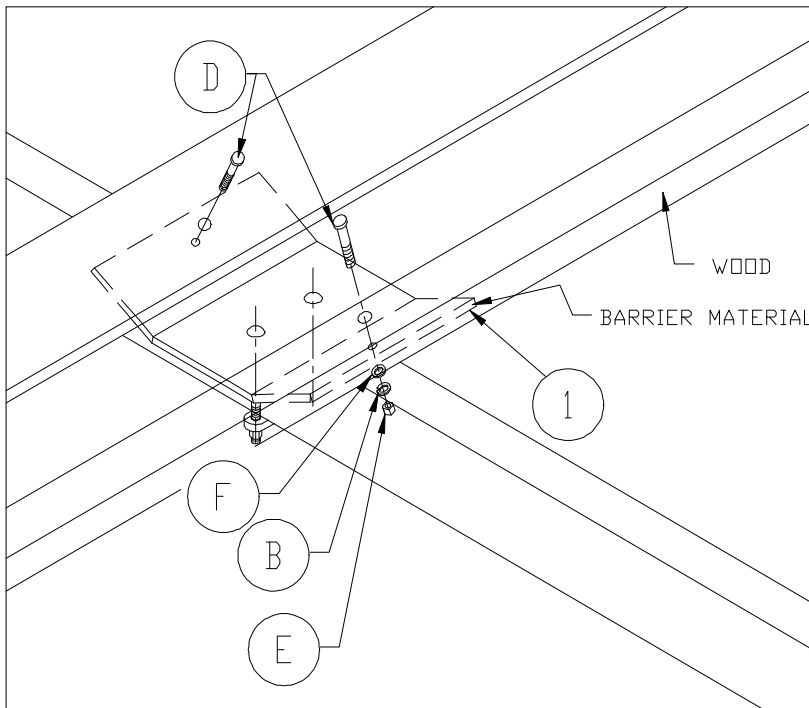

Figure 2-3.
1. **Refer to Figure 2-3.** Place two of the 2" x 6" x 12' pressure treated wood into the Mounting Plates. Ensure that the ends of the wood are even with one another.